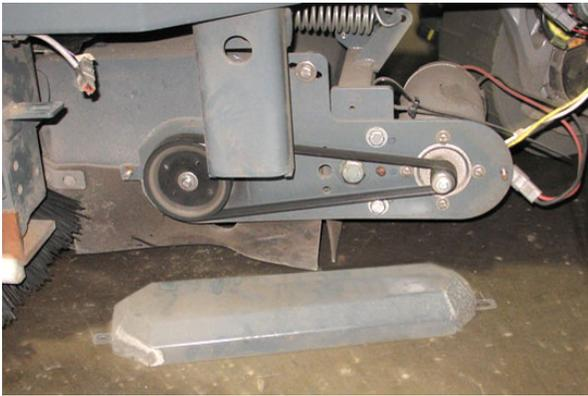
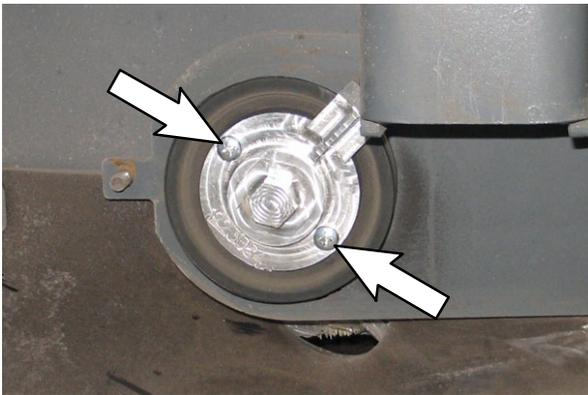
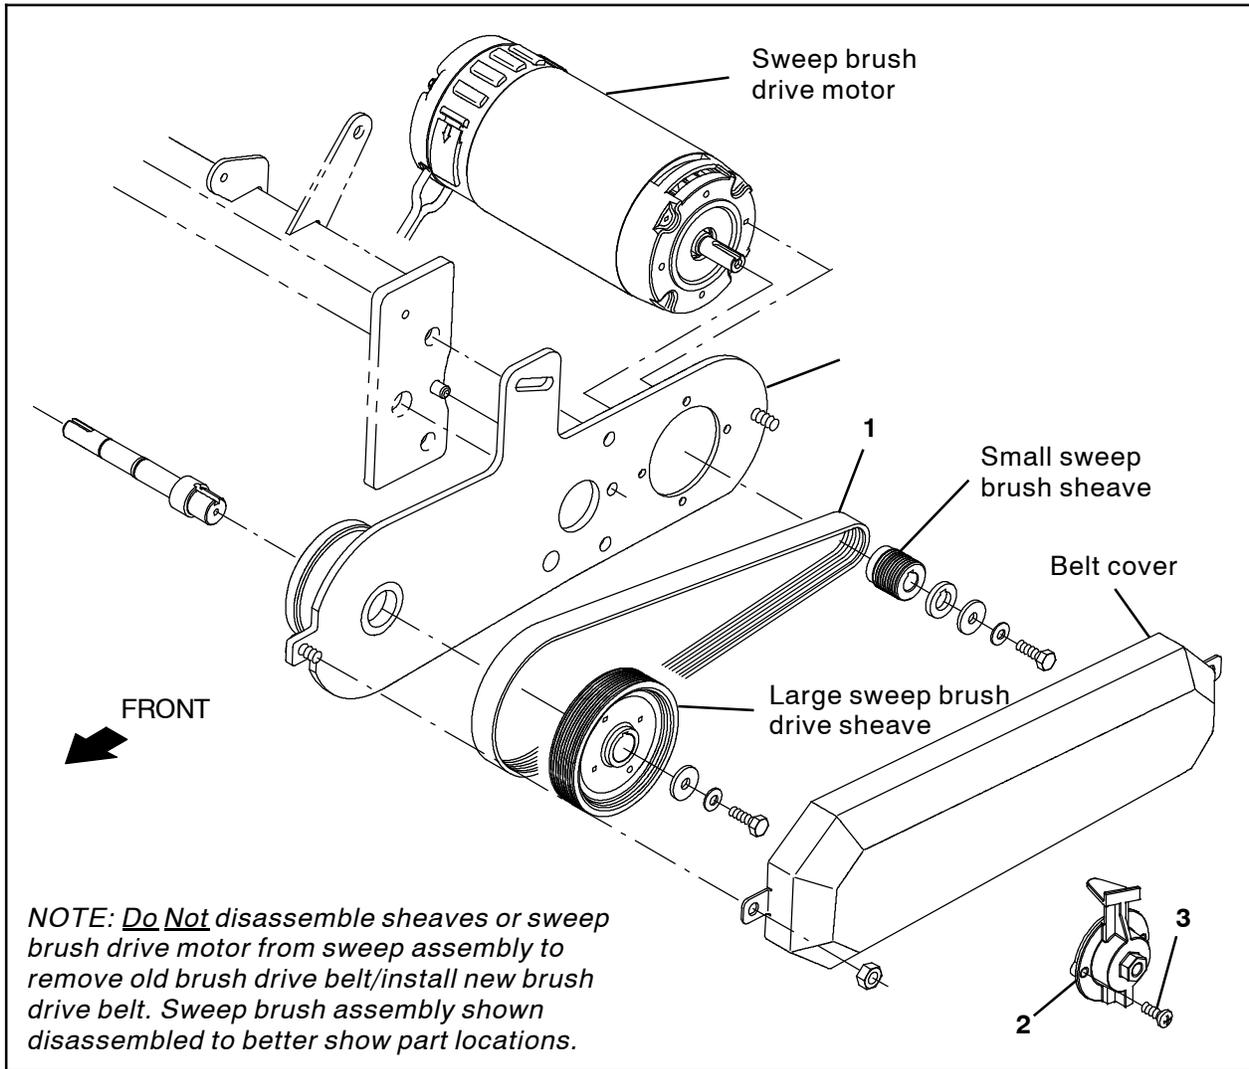

FIG. 2
FIG. 3
FIG. 5
2. Remove the belt cover from the sweep head. Set the belt cover and all hardware aside. (Fig. 2/Fig. 5)
4. Use two M6 pan screws (3) to install belt installation tool (2) onto the large sweep brush sheave. (Fig. 3/Fig. 5)